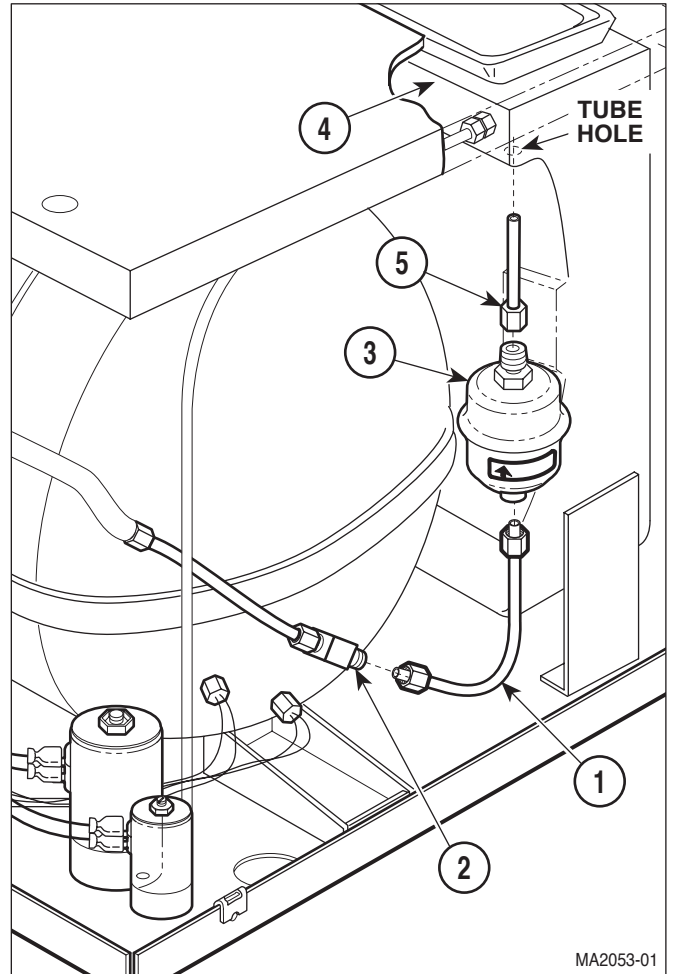

Figure 4-6. Bellows Assembly Removal / Installation
- (1) Remove back panel (Refer to para 4.5).
- (2) Disconnect tube (1, Figure 4-6) from tee (2).
- (3) Pull downward on bellows assembly (3) to remove bellows assembly from condensing tank (4).
- (4) Loosen and remove tubes (1 and 5) from bellows assembly (3).